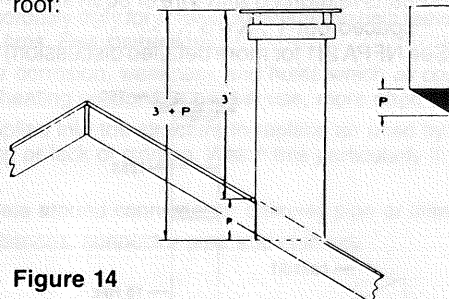

Figure 14
- (A) first determine the necessary height of the housing. These instructions indicate that **A CHIMNEY MUST EXTEND AT LEAST 3 FT. ABOVE THE HIGHEST POINT WHERE IT PASSES THROUGH THE ROOF OF A BUILDING, AND AT LEAST 2 FT. HIGHER THAN ANY PORTION OF THE BUILDING WITHIN 10 FT.** The required height of the housing will depend upon the pitch of the roof, and the distance from the ridge to the point where the chimney passes through the roof.
- (B) Then cut the side panels to fit the roof pitch. Table 2 (Figure 14) gives cutting dimensions for various roof pitches. After the side panels have been cut, the panel which will be on the upper side of the housing, adjacent to the short edge of the side panels, should be cut to suit.